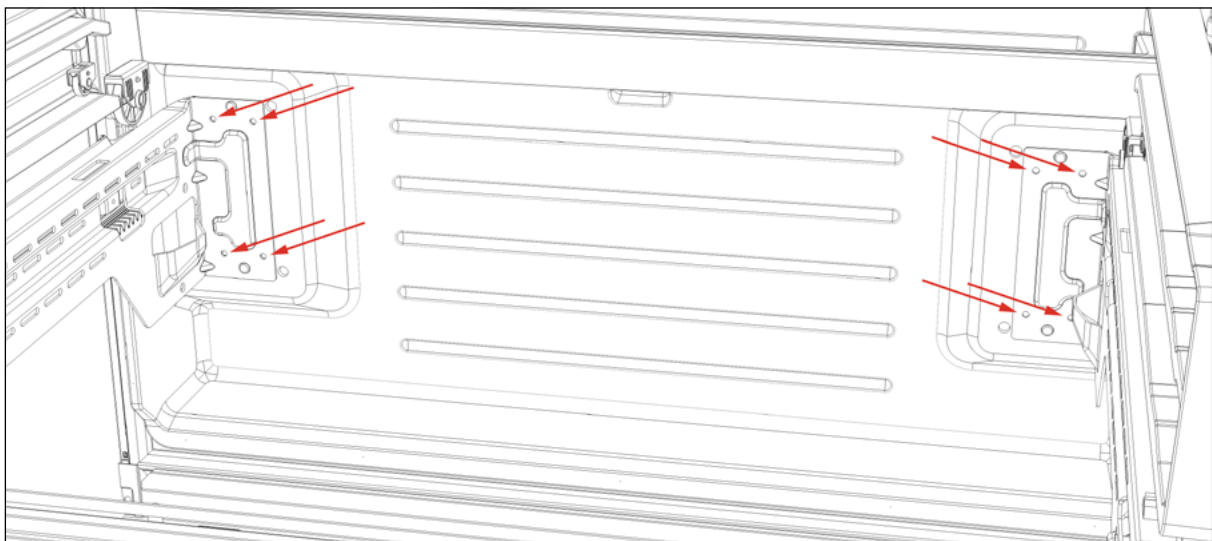

Figure 1
2. The door is secured to 2 brackets affixed to the guiding rails, each with 4 screws (see Figure 1). Remove the 8 screws with a Phillips screwdriver or drill bit, using care as the door may drop to the ground once all screws are removed.